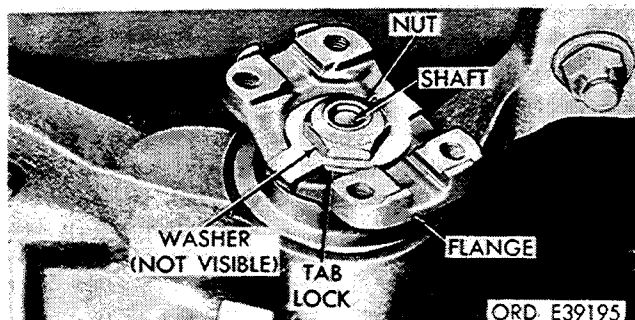

Figure 2-304. Remove flange from shaft.
(1) Remove front propeller shaft (para 2-127).
(2) Straighten tab ends at flange boss and remove tab lock. Remove nut and washer from pinion shaft (fig. 2-304).
(3) Remove flange from shaft (fig. 2-304).